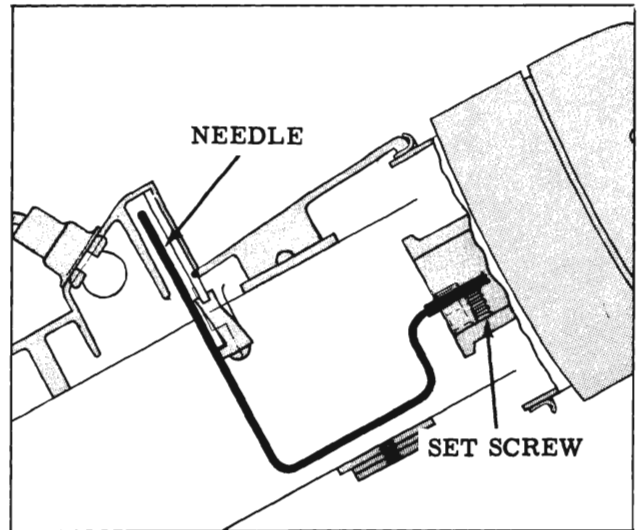

Fig. 4-80 Hydra-Matic Indicator Needle
6. Remove cap from upper mast jacket bracket, then remove the Hydra-Matic indicator needle from the shifter tube. (Fig. 4-80)